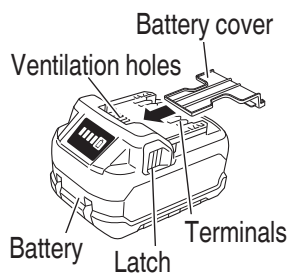

Fig. 3
- Either install the battery in the power tool or store by securely pressing into the battery cover until the ventilation holes are concealed to prevent short-circuits (Fig. 3).